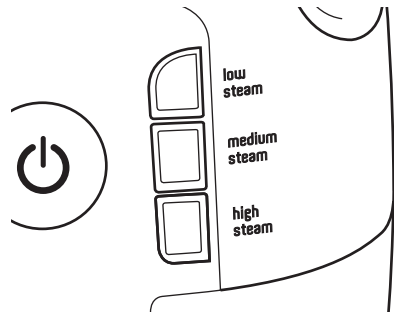

Figure 3
4. Select the desired steam level by pressing the low, medium or high steam rate button (as shown in Fig 3). The steam selection indicator will flash BLUE whilst the boiler is heating. When the steam selection remains illuminated BLUE and does not flash, the unit is ready to use.